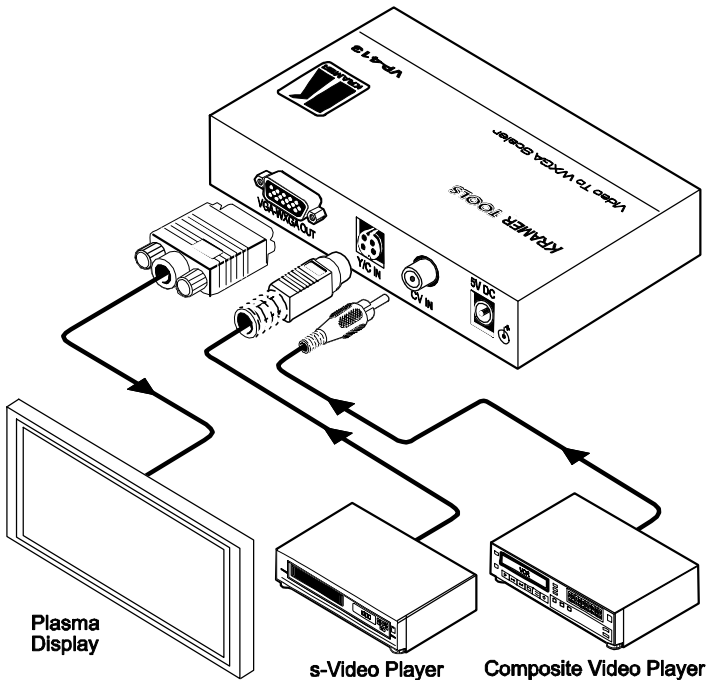

Figure 5: Connecting the VP-413
To connect the **VP-413**, as the example in Figure 5 illustrates, do the following¹:
3. Connect the 5V DC power adapter to the power socket and connect the adapter to the mains electricity (not shown in Figure 5).